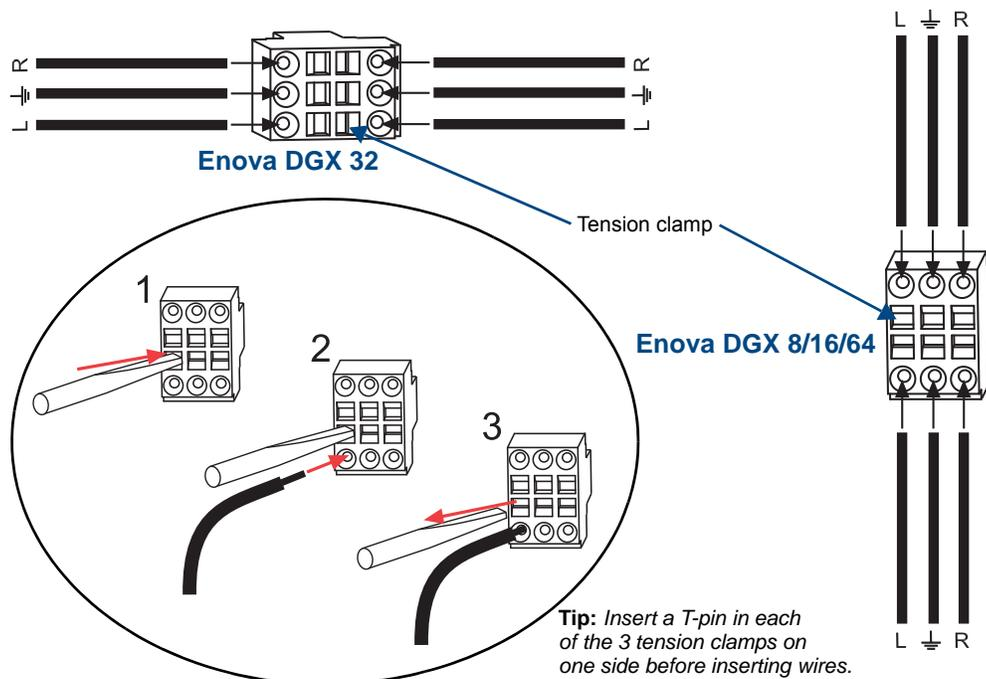

FIG. 80 Audio wiring for AIE Board
- Audio boards and connectors are positioned vertically on the Enova DGX 32 and horizontally on the Enova DGX 8/16/64. Be sure to note the labeling for the wiring on the “R” (right channel) and the “L” (left channel) wires in FIG. 80.